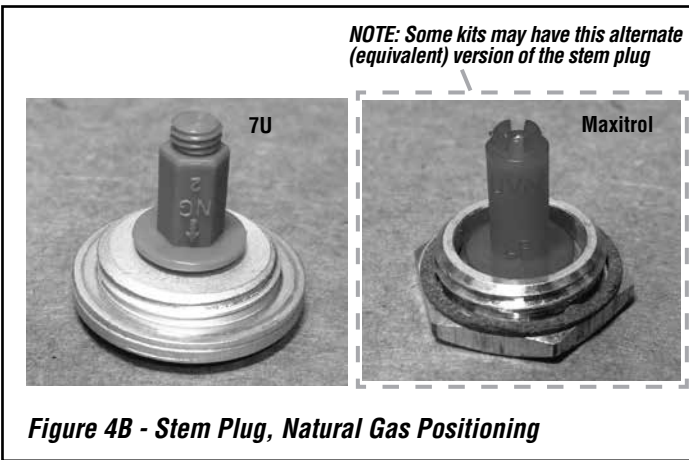

Figure 4B - Stem Plug, Natural Gas Positioning
Step 4B. *Figure 4B* shows the stem plug positioning for Natural Gas.